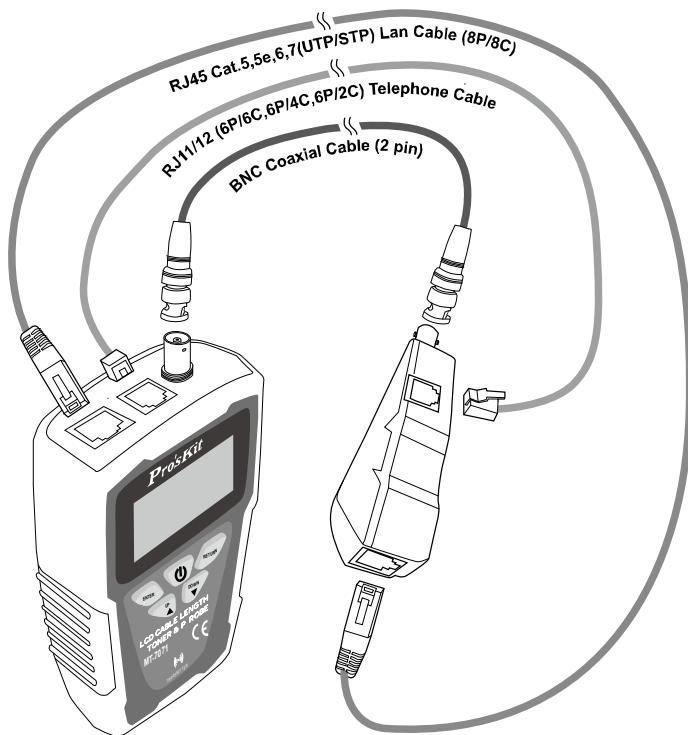

Figure 3 Validating Cable Maps
1. Please connect tested cable to transmitter and remote unit properly as figure 3.
1. Please connect tested cable to transmitter and remote unit properly as shown in figure 3.